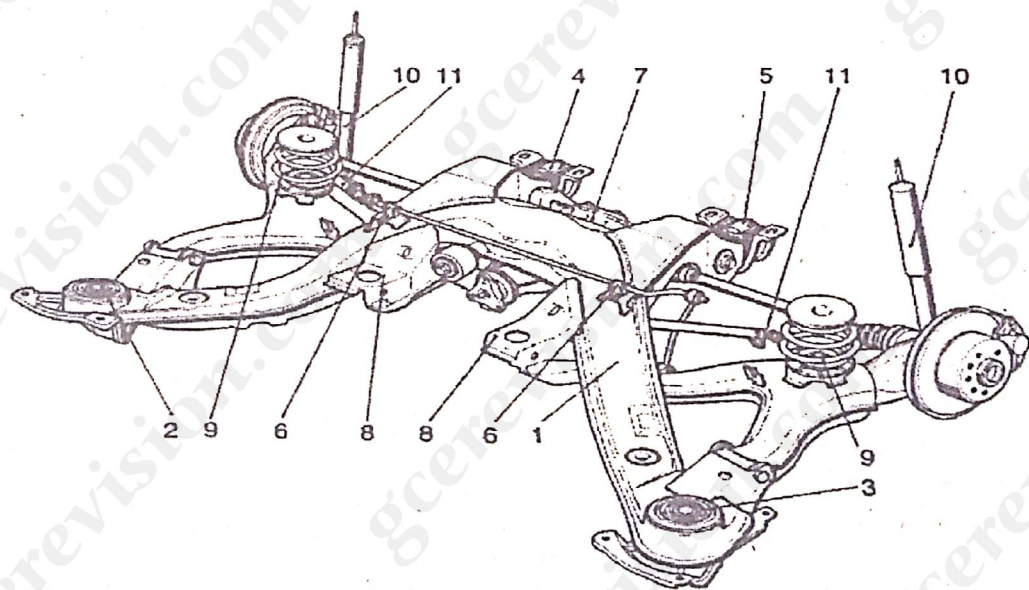

Figure 4
- Figure 4 below shows a rear suspension of the vehicle: mark OPEL OMEGA, 1999 model.
- a. Give the names of the numbered parts 1,2,3,4 and 5 from figure 4 above. (5marks)